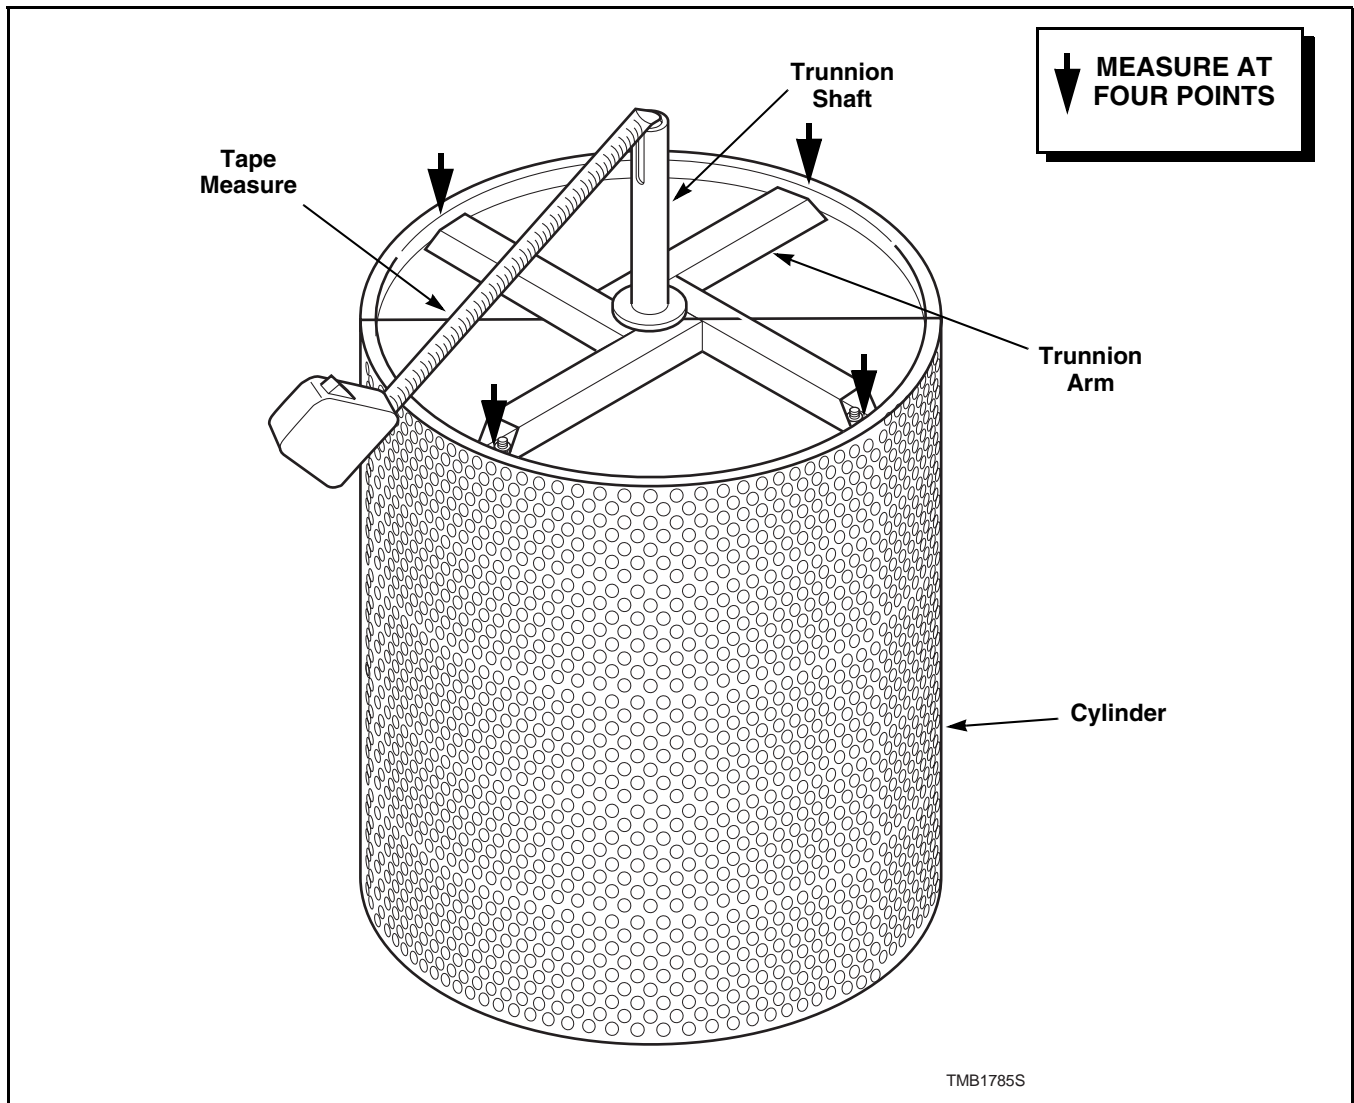

Figure 19
Refer to *Figure 19*.
**IMPORTANT:** When installing trunnion assembly on cylinder, the cylinder and shaft must be aligned. Refer to *Figure 19*. Measure the distance between the center of the trunnion shaft and the outer rim of the cylinder at the four points shown. If any measurement is less than the largest, place spacer(s) between trunnion arm and cylinder back until all measurements are equal.